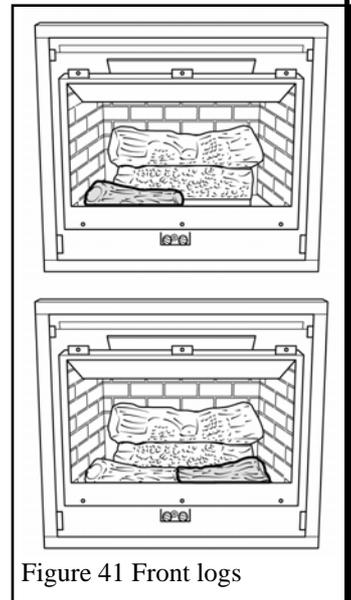

Figure 41 Front logs
3. Place the two front logs at the front of the firebox as shown in figure 41.